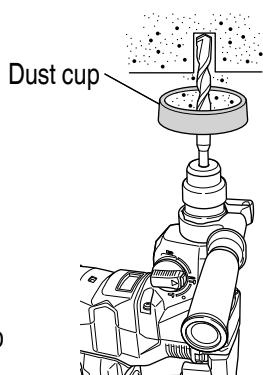
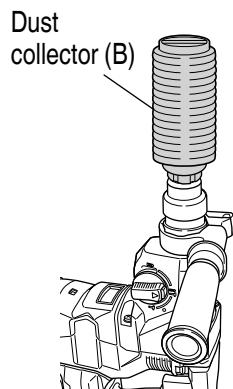

Fig. 13
Fig. 14
(Optional accessories) (Fig. 13, Fig. 14)
Use the dust cup by attaching to the drill bit as shown in Fig. 13.
- Installing dust collector (B)
When using dust collector (B), insert dust collector (B) from the tip of the bit by aligning it to the groove on the grip. (Fig. 14).